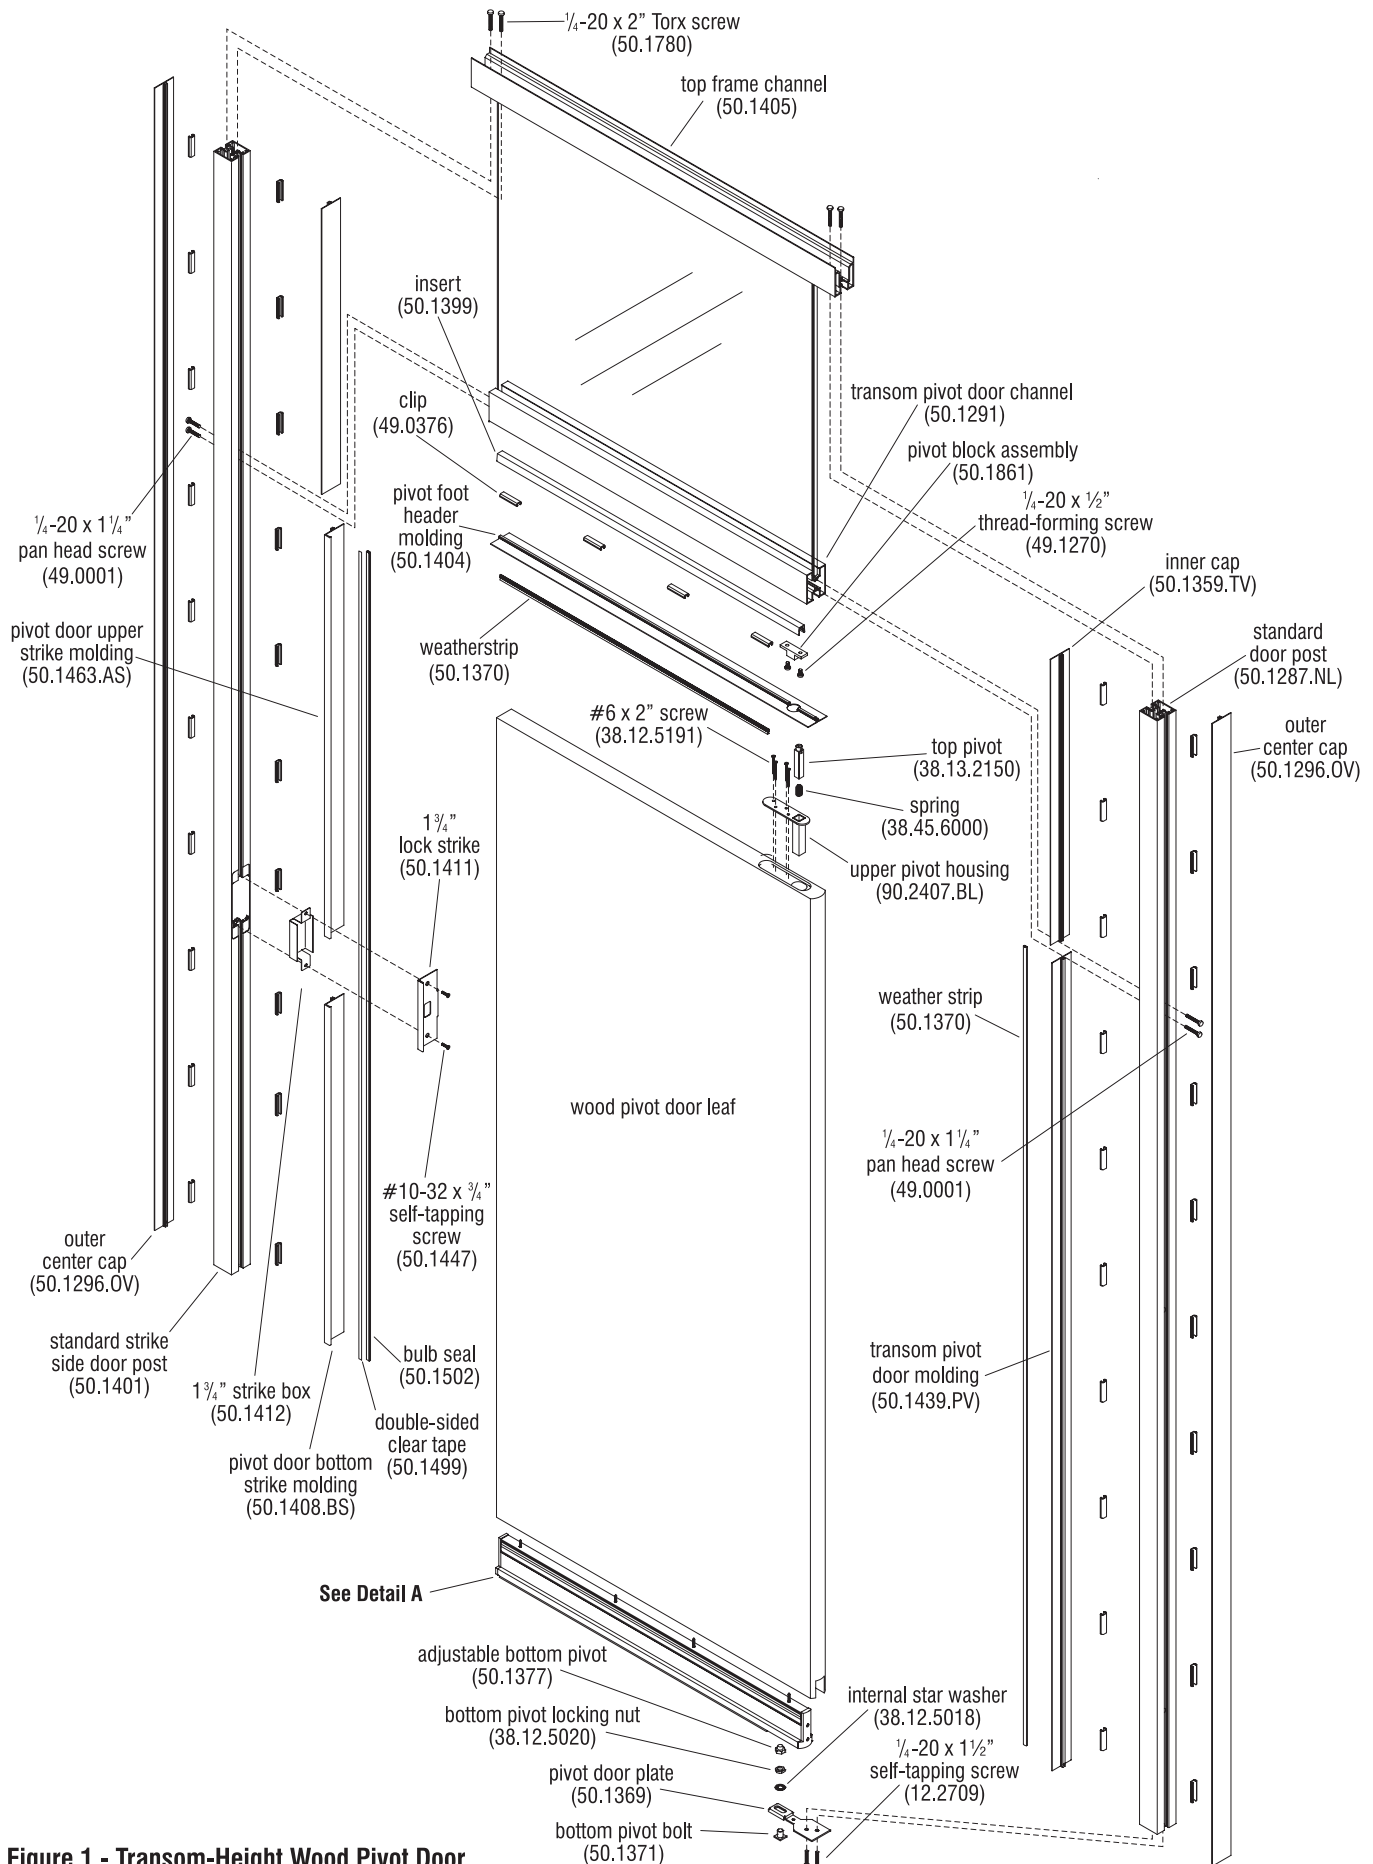

Figure 1 - Transom-Height Wood Pivot Door
3. Locate the standard strike-side door post, measure from the top of the post to the bottom and mark the recorded measurement onto the post at the bottom end. Cut the bottom of the post off square at that length (Figure 1).
that post location and record that measurement. If carpet is present, account for extra length that the post will sink into carpet, and also remove length for the $\frac{1}{8}$ " thickness of the pivot door plate (50.1369) (Figure 1).
Cut the bottom of the post off square at that length, then re-install the pivot door plate removed above in this step (Figure 1).
6. Stand both door posts up under the ceiling rail at their respective installation locations and check that the posts are cut to the correct height. Remove the sample ceiling trim once the posts are known to be the correct height (Figure 1).
7. Carefully lay the posts and the top glass assembly with the top frame channel (50.1405) and transom pivot door channel (50.1291) onto a soft protective surface on the floor in the correct orientation. Secure the posts to the top frame channel using four $\frac{1}{4}$ -20 x 2" Torx screws (50.1780) and to the transom pivot door channel using four $\frac{1}{4}$ -20 x $1\frac{1}{4}$ " pan head screws (49.0001) (Figure 1).
8. If not already installed, position the pivot block assembly (50.1861) over the pre-drilled holes in the transom pivot channel and secure using two $\frac{1}{4}$ -20 x $\frac{1}{2}$ " thread-forming screws (49.1270) (Figure 1).
10. To prepare the pivot door leaf, begin by installing the upper pivot housing (90.2407.BL). Position the upper pivot housing into the cutout in the top of the door leaf and secure using four #6 x 2" screws (38.12.5191) (Figure 1). Do not install the spring and top pivot at this time.